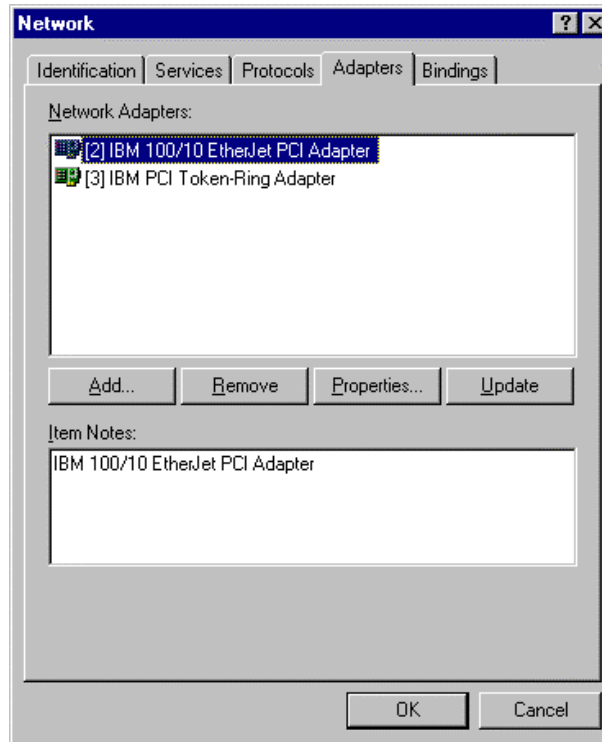

Figure 3-2. Network Screen
2. From the **Adapters** tab on the **Network** screen, click on the **Add** button (Figure 3-2).